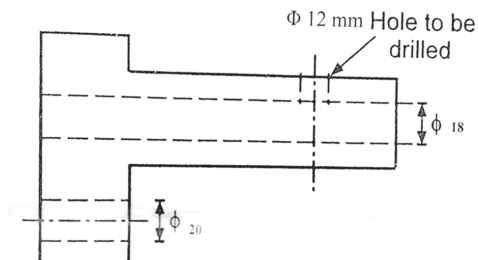

Fig. 1
b) Draw a drill jig for drilling hole of size 12 mm as shown in Fig. 1 below. Use appropriate locators, clamping devices and drill bushes. [12]